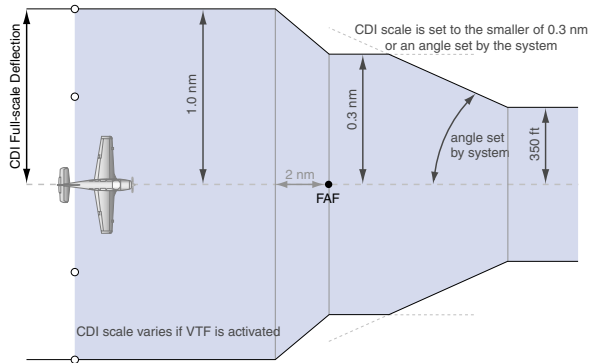

Figure 2-28 Typical LNAV and LNAV+V Approach CDI Scaling
- During **approach**, the CDI scale ramps down even further (see Figures 2-28 and 2-29). This transition normally occurs within 2.0 nm of the final approach fix (FAF). The CDI switches to approach scaling automatically once the approach procedure is activated or if Vector-to-Final (VTF) is selected.